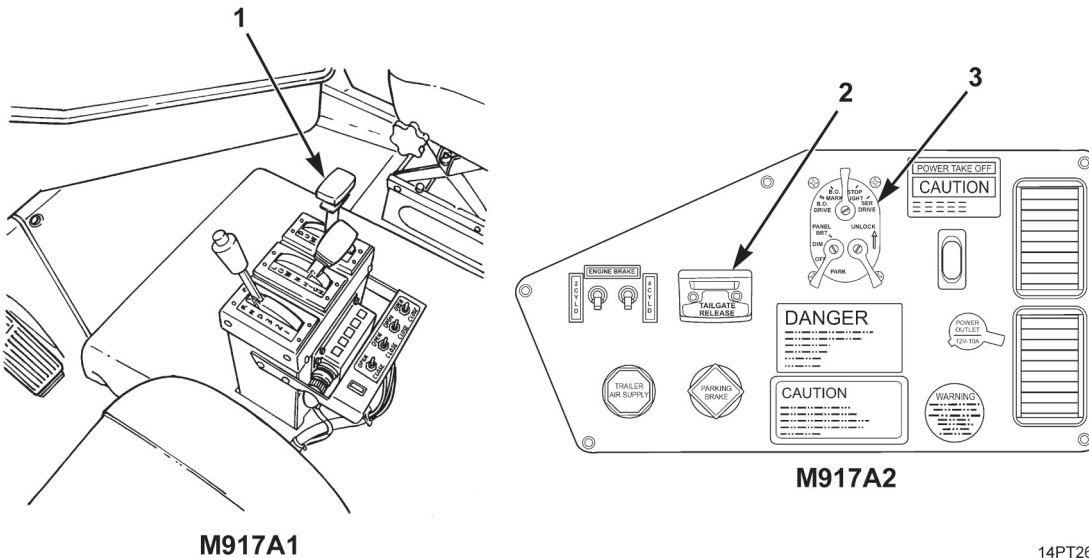

Figure 4. Hydraulic Control Lever and Dashboard Controls and Indicators.
- b. Return hydraulic control lever (Figure 4, Item 1) to N (Neutral) position.
- b. Turn off main light switch (Figure 4, Item 3).
- c. Slide tailgate release control valve lever (Figure 4, Item 2) right to LOCK position.